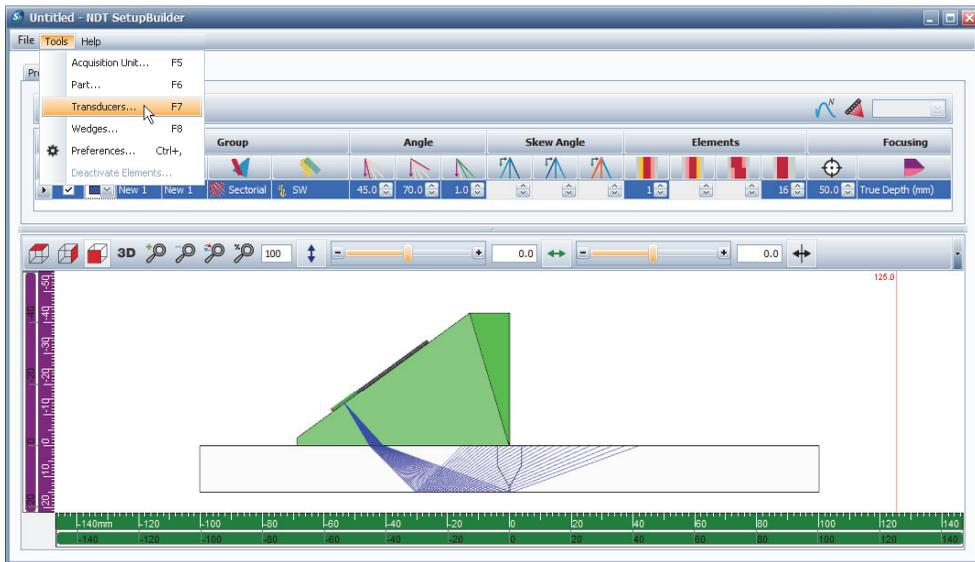

Figure 9-10 Accessing the probe settings on the Tools menu
1. On the **Tools** menu, click **Transducers** to access the probe settings (see Figure 9-10 on page 104).